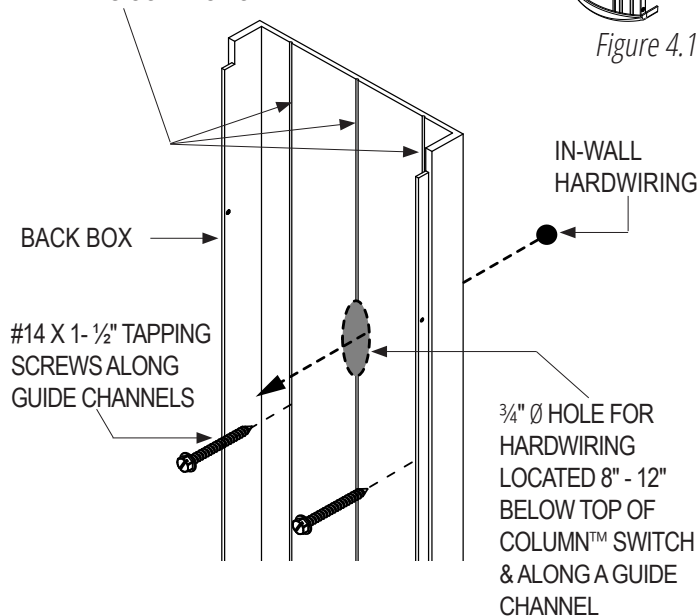

Figure 4.2 Guide Channels
6. Drill the mounting screw holes on the Back Box using drill bit 17/64" for either #14 tapping screws or 1/4"-20 machine screws. (Figure 4.2 and 4.3)
8. Drill the $\frac{3}{4}$ " \varnothing hole on the Back Box for hardwiring connection. (Figure 4.2 and 4.3)